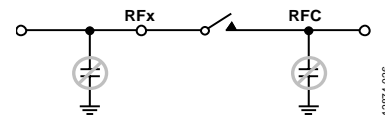

Figure 71. Avoid Having a Large Capacitor Directly Connected to the MEMS Switch
- Avoid connecting large capacitive terminations directly to the switch, as shown in Figure 71. A shunt capacitor can store a charge that potentially leads to hot switching events when the switch opens or closes, affecting the lifetime of the switch.